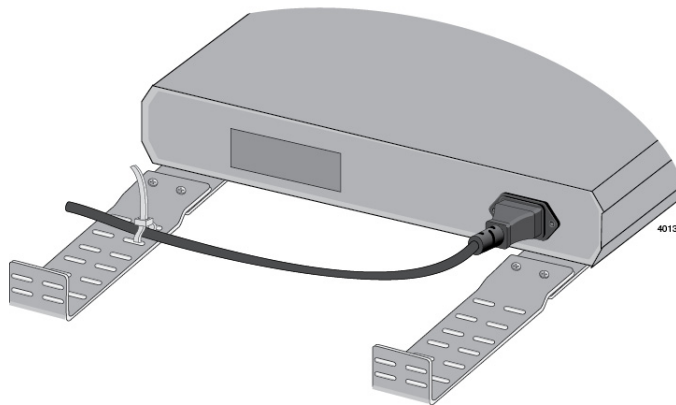

Figure 39. Securing the Power Cord Using a Tie-wrap
9. Use a tie-warp to secure the power cord, as shown in Figure 39.